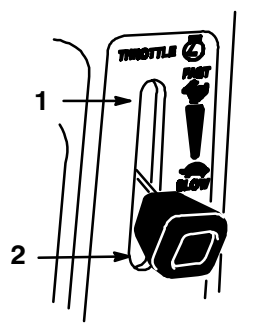

Figure 4
5. Move throttle lever to "FAST" (Fig. 4).
- After the engine starts, move the choke lever to “OFF” (Fig. 4). If the engine stalls or hesitates, move the choke lever back to “ON” for a few seconds. Then move the throttle lever to desired setting. Repeat this as required.
- Move the throttle lever between half and full throttle (Fig. 4).